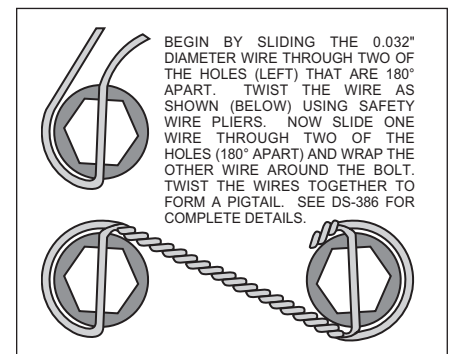

Figure 3. Safety Wire Diagram
- The caliper mounting bracket assembly (1) should be installed first with clean, dry threads on the mounting bolts. The bracket must tighten squarely against the outboard side of the caliper mount bosses on the spindle body. Inspect for interference from casting irregularities, machining ridges, burrs, etc. Slide bolt (2) through lock washer (3) then through the hole in the spindle body where the OEM bolt was removed. Use one thin shim (4) between the bracket and spindle during initial trial fitting. Later, after the caliper, pad and rotor alignment have been checked, and any necessary shims have been put in place, the mount bolts (2) should be coated with red *Loctite*® 271 and torqued to 47 ft-lb.
- With the larger I.D. side of the rotor (5) facing away from the hat (6), bolt rotor (5) to hat (6) through the backside of the rotor using washers (7) and bolts (8). Torque bolts (8) to 85 in-lb. Safety wire bolts (8) using standard 0.032 inch diameter stainless steel safety wire as shown in Figure 3. Please refer to Wilwood's data sheet DS-386 (available at www.wilwood.com/pdf/ds386.pdf) for complete safety wire installation instructions. Slide the rotor/hat assembly onto the spindle. Install a couple of lug nuts (hand tighten) to keep the rotor/hat assembly in place while continuing with the installation.
- NOTE:** Please reference the caution statement at the beginning of the assembly instructions. With the bleed screws pointing up, mount the caliper (9) onto the caliper bracket (1) with the self locking hex nut (10), flat washer (11), through the top of the caliper and mounting stud (12) with flat washer (13) positioned between caliper (9) and caliper mounting bracket (1). Finger tighten. Check to see that the top of the rotor is aligned with the top of the brake pad. If adjustment is necessary, add or subtract flat washers (13). View the rotor (5) through the top opening of the caliper (9). The rotor (5) should be aligned in the center of the caliper (9). If not, adjust the caliper (9) by using 0.033 inch thick shims (4) placed between the spindle assembly and the caliper mounting bracket (1). Finger tighten and recheck alignment. Lubricate caliper mounting studs and nuts with lightweight oil, reinstall the caliper, torque the caliper nuts (10) to 30-35 ft-lb.
- Remove the bridge bolt from the caliper (9) and install the disc brake pads (14). Reinstall the caliper bridge bolt.